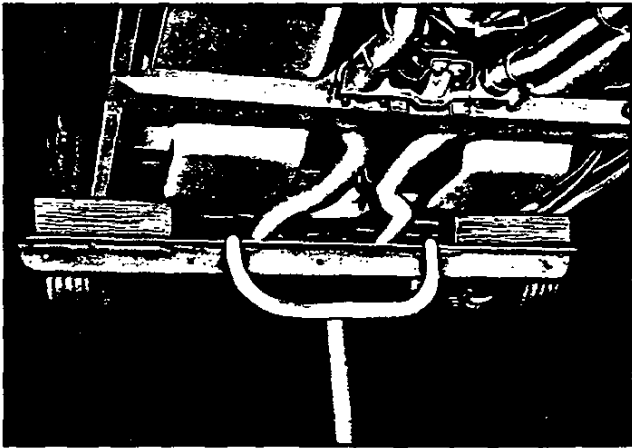

Fig. 6—Frame Lift Adapters—Corvette
- b. If rear axle work is contemplated, use either suspension adapters or drive-on adapters at the front and frame lift adapters as shown in Figure 6. If frame lift adapters are not available, use jack stands.
NOTE: Wooden blocks, bolted to a steel beam shown in Figure 6 are necessary to allow beam to clear exhaust system.